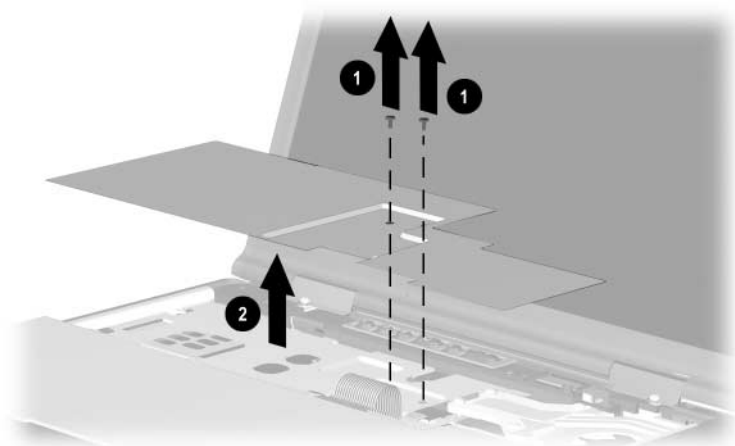

Figure 5-16. Removing the Keyboard Shield
6. Remove the two PM2.0 × 4.0 screws ❶ that secure the keyboard shield to the base enclosure (Figure 5-16).
7. Remove the keyboard shield ❷.